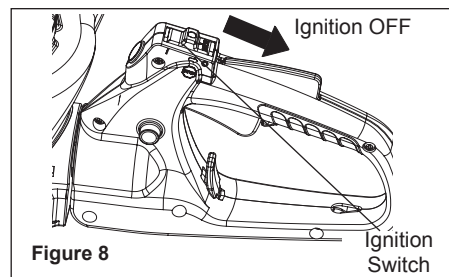

Figure 8
2. Move the ignition switch to the "O" or STOP position. See Figure 8.